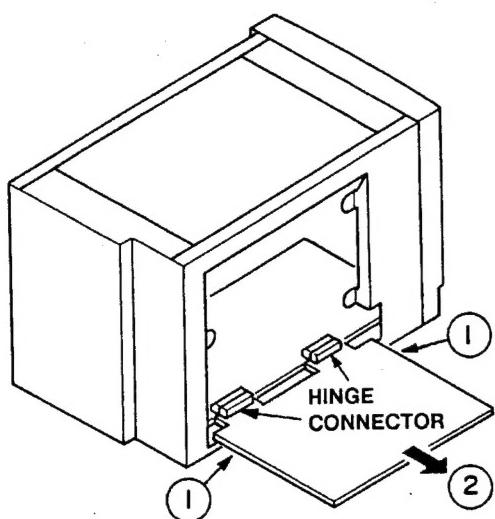
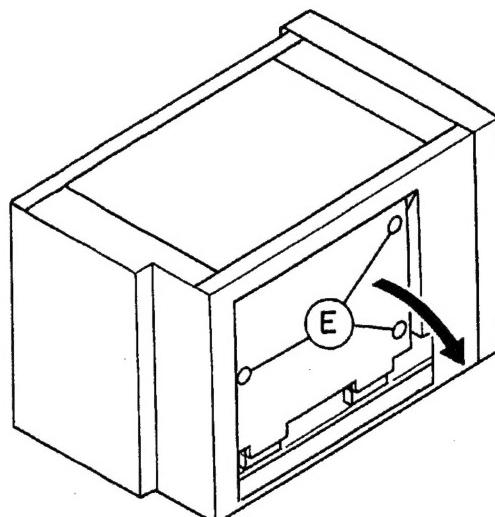

Fig. 4
Fig. 3
- (1) Remove the 3 screws Ⓒ shown in Fig. 3.
- (2) Open the signal PC board assembly towards yourself as shown by the arrow.
- (3) Grasp at the position of arrows ① and pull in the direction of arrow ② to remove the signal PC board assembly. (Removing the hinge connectors one by one facilitates the removal.)
- (Fig. 4)